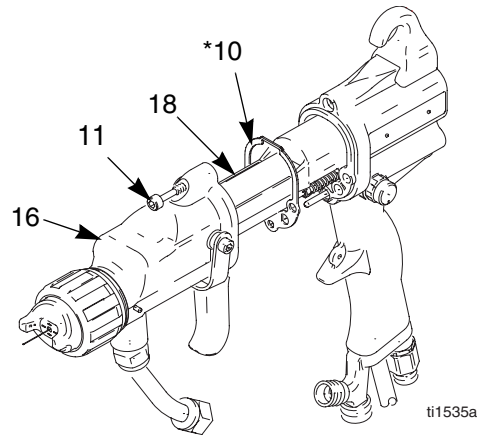

Fig. 14. Barrel Installation
1. Be sure the gasket (10*) is in place. Make sure the air holes are aligned properly. Replace if damaged. See FIG. 14.
2. Place the barrel (16) over the power supply (18) and onto the gun handle (17).
3. Tighten the three screws (11) oppositely and evenly (about a half turn past snug).